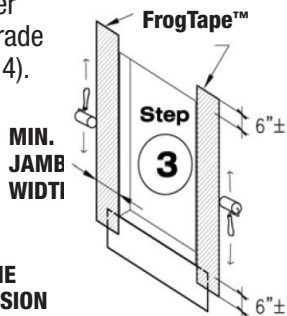

Figure 4 Apply jamb flashing.
Step 3. Precut FrogTape Pro Grade Flashing Tape for the jambs to extend a minimum of 6 in above and below the prepared rough opening. Peel off release liner and adhere FrogTape Pro Grade Flashing Tape over the jamb fins and over the top of FrogTape Pro Grade Flashing Tape (see Figure 4). Use a roller on the entire surface of the tape to ensure adhesion.